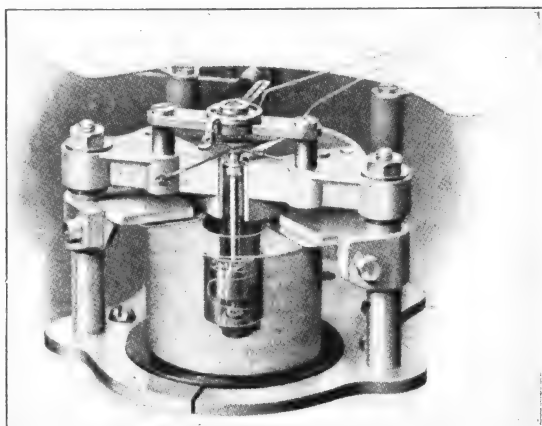
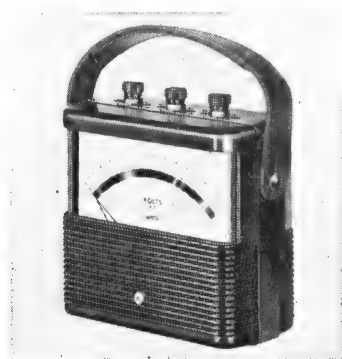

Fig. 17. A Phantom View of a Weston Movable Iron Type Voltmeter
Fig. 18. Weston Movable Iron Type Instrument
The relation of the fixed and movable pieces of iron is shown in Fig. 17. The fixed piece is secured to the extension in No. 5 of
**Movable Iron Type of Voltmeters.** Fig. 18 shows a typical type of movable iron voltmeter the construction of which is shown similar to Fig. 17 in every respect except for the coil. The magnetizing coil or solenoid consists of a great many turns of small wire.